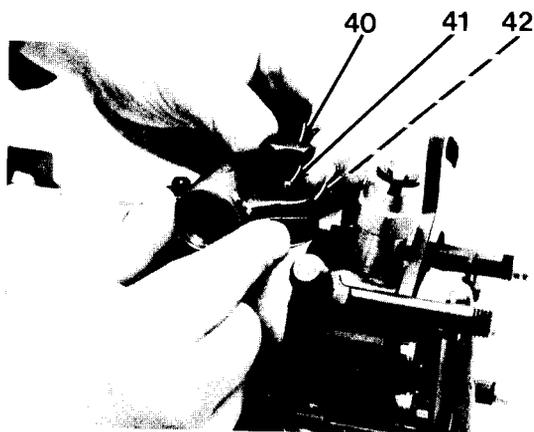

Figure 7-25
5. Install gasket (42) in timing housing with locating fitting and O-ring (40) and ball (41, figure 7-25), and hand tighten.